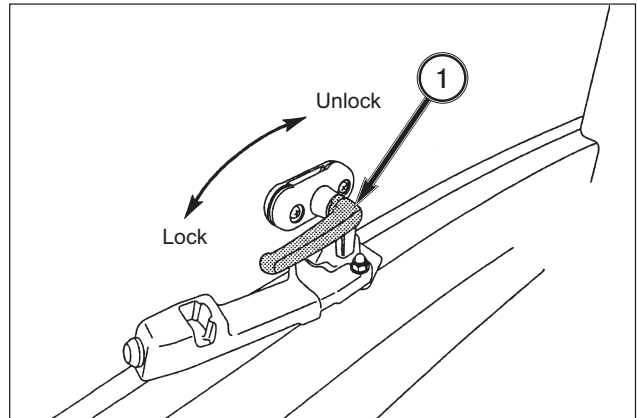

FIG. 5-49
FIG. 5-49: Grasp the handle(1) and turn 90 degrees clockwise to unlock the window. To open, push the rear window out slightly. The window will open and is held in place by the damper.